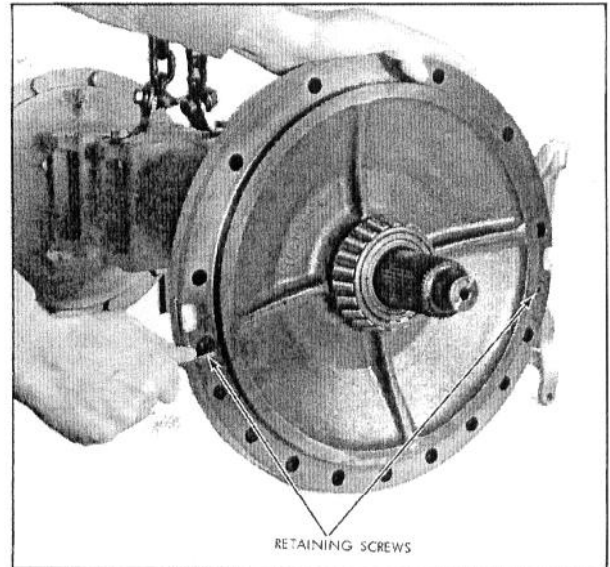
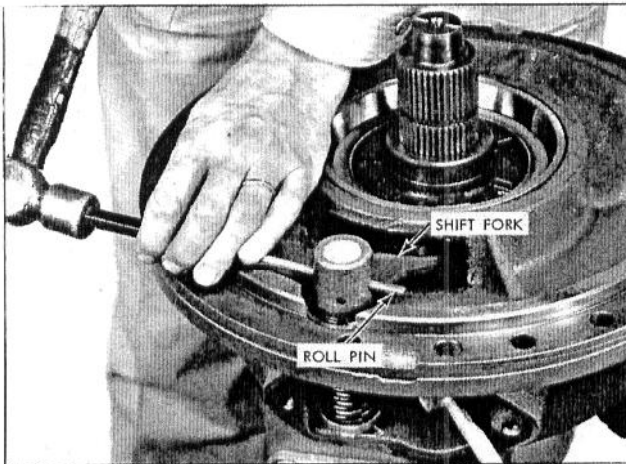

Fig. 2 - Carrier Plate Retaining Screw Removal or Installation
Fig. 4 - Differential Lock Shift Fork Pin Removal
1. Remove the carrier plate retaining screws and carrier plate. Refer to Figs. 2 and 3. Remove the differential lock carrier plate as shown in Figs. 4 and 5.